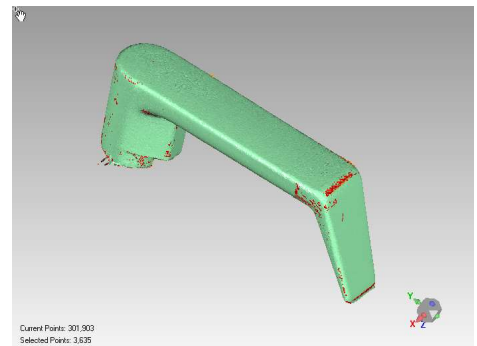

Figure 45
2. Change view orientation to review select points. Also notice the number of points selected in the **Overlay**, see **Figure 45**.